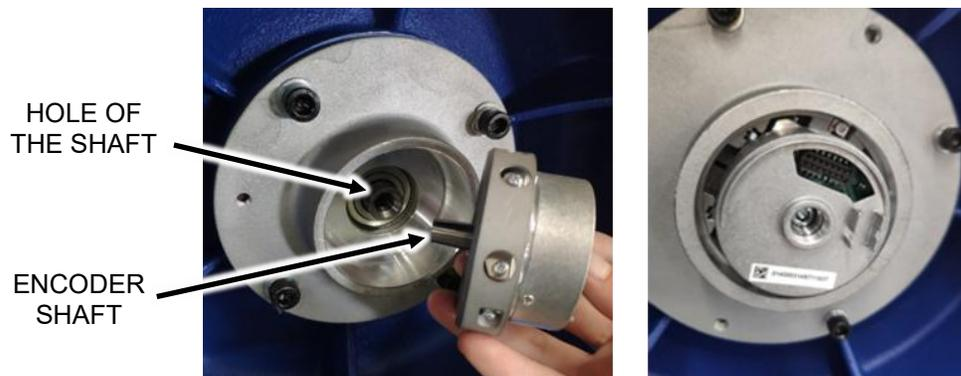

Figure 32
2. There is a taper in the front of the encoder shaft, put the encoder shaft into the hole of the shaft. Figure 32.